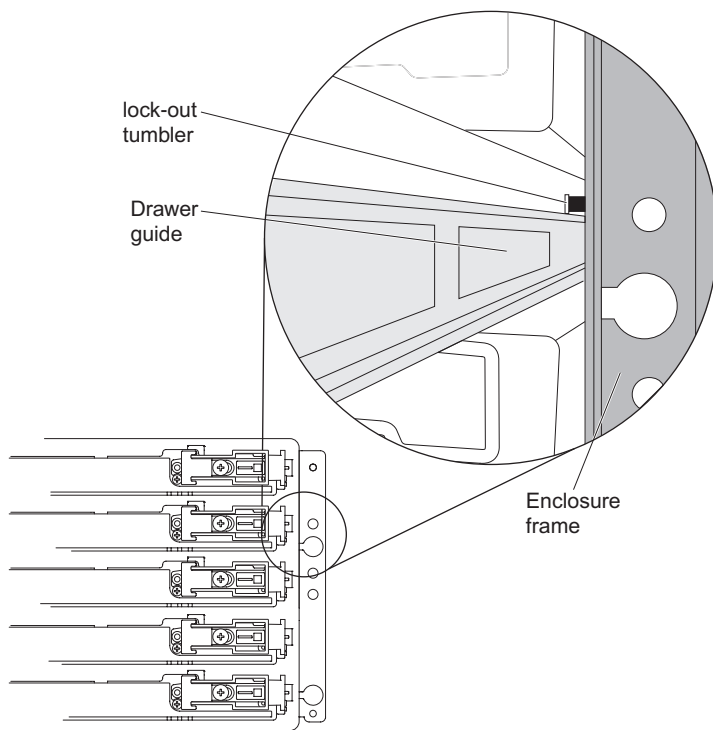

Figure 87. Lock-out tumbler located above the drawer guide
- a. At the front of the storage expansion enclosure, install the new drive drawer into the slot, making sure the lock-out tumbler is located on the top of the drawer guide. The lock-out tumbler is a small alignment piece that is attached to the frame. Figure 87 on page 126 shows the location of the lock-out tumbler as shown from the front of the enclosure.